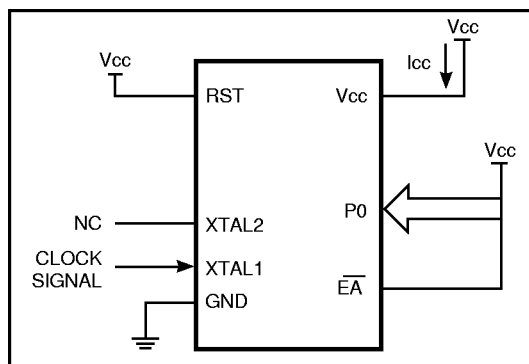

Figure 27. Active Mode
1. See Figures 27, 28, 29, and 30 for I_{CC} test conditions.